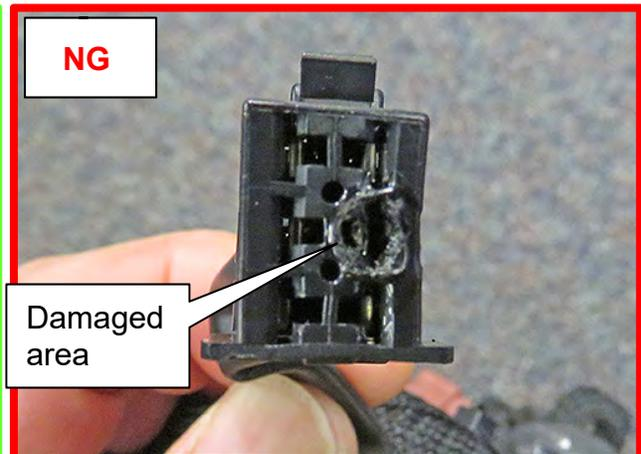
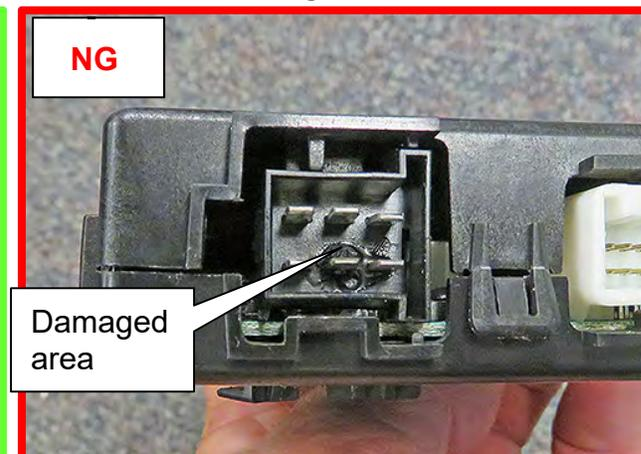

Figure 3
Figure 5
- The harness connector or control unit of the climate controlled seat appears as shown in Figure 3 or Figure 5.
- If the harness connector or the control unit appears similar to Figure 3 and/or Figure 5 (**NG**), proceed to step 9.